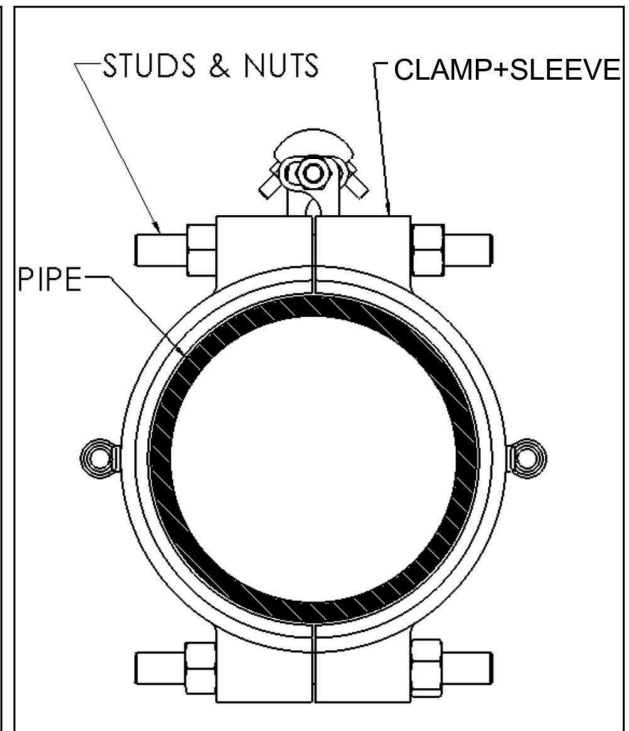

Figure 12
6. Once the fitting is wrapped around the pipe, insert the studs through the bolt holes and thread on the nuts as shown in Figure 12. Proceed to tighten the studs and nuts per these installation instructions.